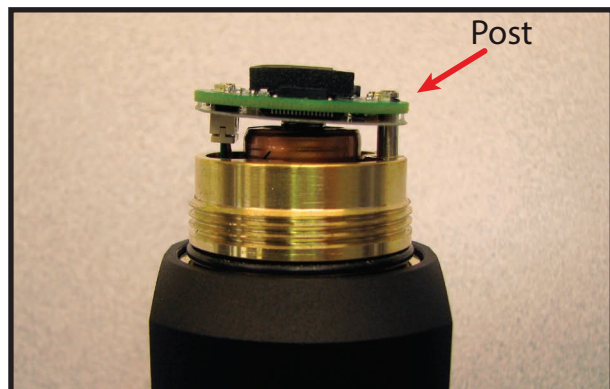

Figure 4: Retaining Post
- 4.1) Gently remove the circuit board from the retaining post. See Figure 4.
- 5.1) Align the post and post hole of the circuit board and press the board over the post until it snaps into place below the gasket ring. Refer to Figure 4.